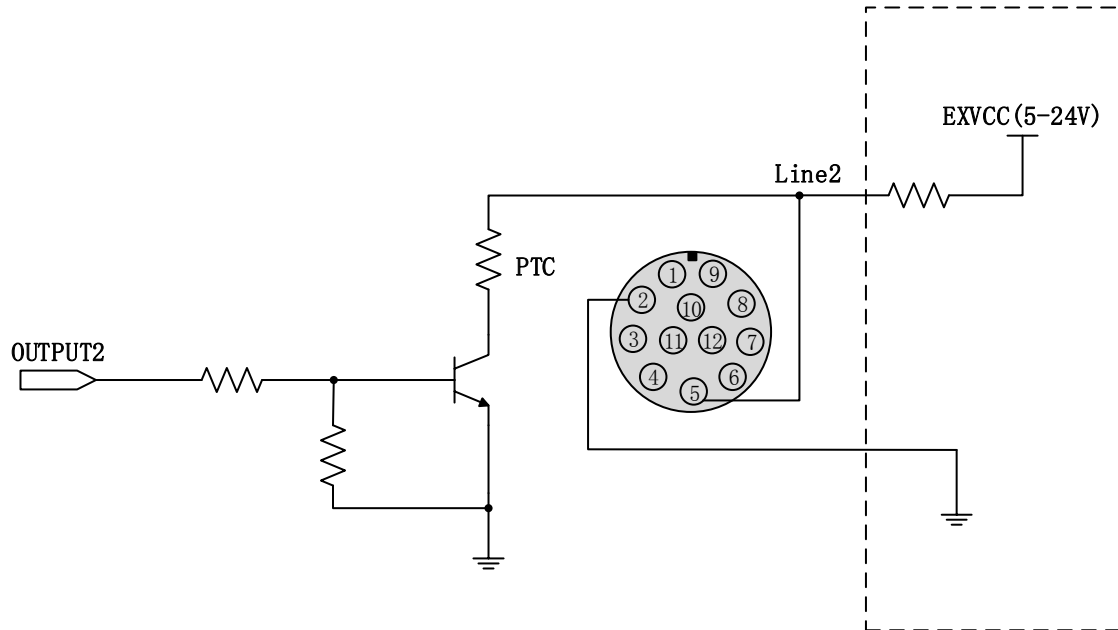

Figure3- 7: Internal equivalent circuit of camera when Line2 is configured as output
- When Line2/3 is configured as output, the internal equivalent circuit of camera is shown in Figure3- 7, taking Line2 as an example.